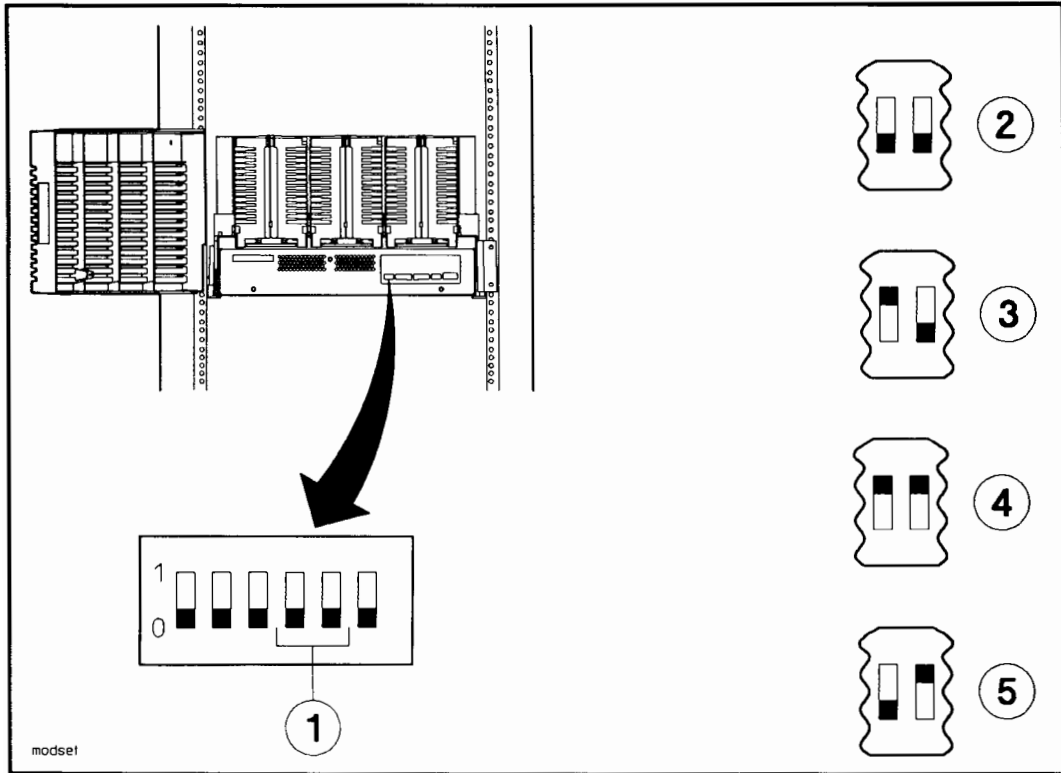

Figure 3-15. Setting the MODE Switches
The MODE switches are used to set the operating mode of the disk array. To set the MODE switches, see Figure 3-15. Set the MODE switches initially to the Independent Mode.
- An abbreviated version of the MODE switch settings shown in Figure 3-15 is located on the array display panel under the word "MODE". The following symbols are used on the array display panel: